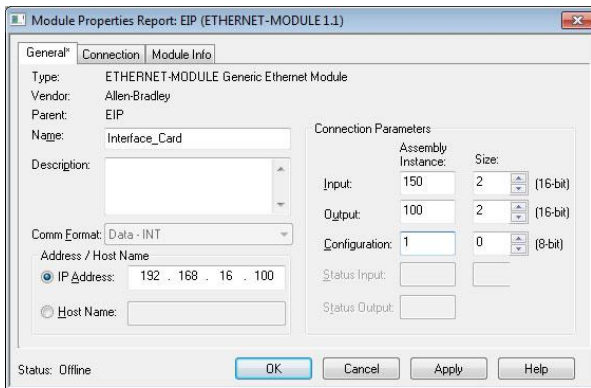

Figure 36: Interface Card Module Properties
- 4) The module properties dialog box will open (refer to Figure 36). Enter a Name which will allow easy identification of the inverter on the network (the tags created in RSLogix 5000 will be derived from this Name). Because all inverter data is stored as 16-bit function codes, change the "Comm Format" selection to "Data-INT". Enter the IP address of the targeted interface card.